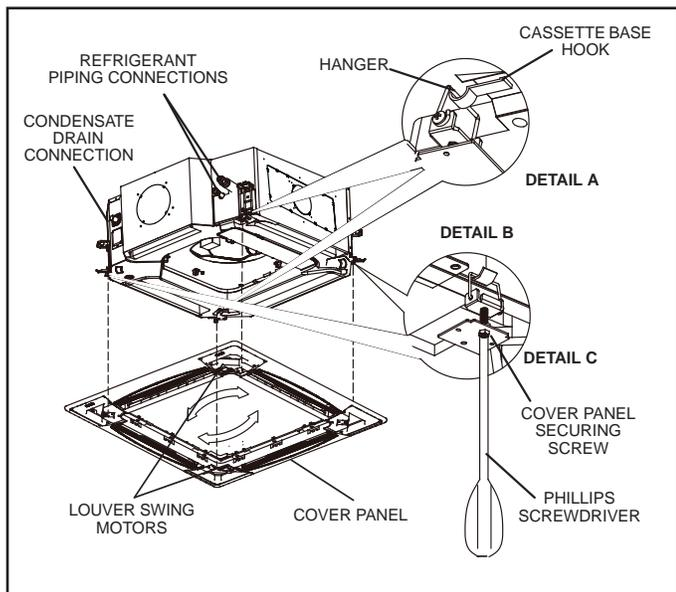

Figure 22. Install Cover Panel
5. Locate the cover panel hangers on the two corners with the louver swing motors. Place these two hangers on the corresponding hooks on the corners of the cassette base. See detail A in Figure 22. Then, place the other hangers from the other two corners over their corresponding hooks on the cassette base as shown in detail B in Figure 22.
9. Tighten the provided screws in the bracket in the cover panel immediately below each panel hanger. See detail C in Figure 22. Adjust the cover panel by turning slightly clockwise, if necessary, to make sure that the panel is properly aligned with the cassette base.